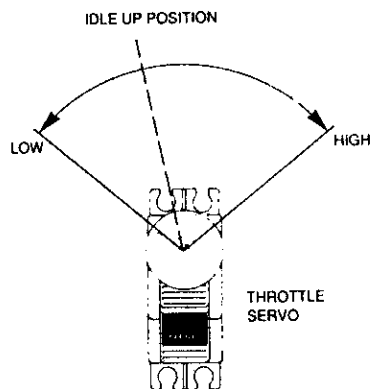

FIGURE 10
The VANGUARD FM 6H Transmitter incorporates a Throttle Hold function, which does exactly what it says, i.e., it holds the throttle servo at a predetermined setting no matter where the throttle control stick (12) is moved; see Figure 10.